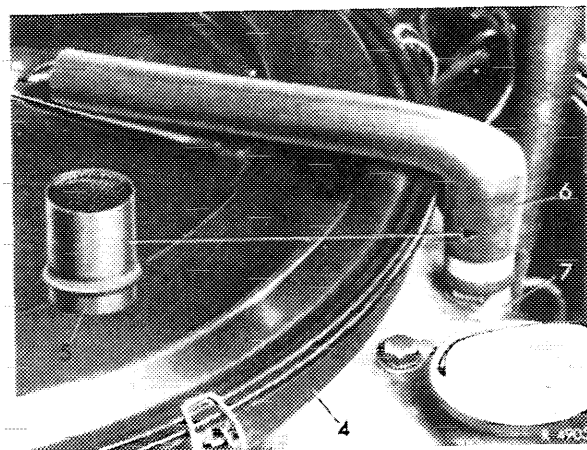

Fig. 01-1/3
In the USA version Model 250/8 "Model Year 70" a flame protection screen (5) is installed in the profilated hose (6) between the cylinder head cover (7) and the suction noise damper (4) (Fig. 01-1/3).